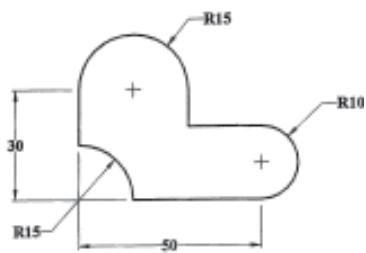

Fig: 1
1. a) Draw neat sketch and label it to show the basic terminology of press tool for the component shown in fig. 1. Also state the different types of die set and which one is shown in your sketch. **8**
- b) What is C.P. ? Find it for the blank shown in fig.1. **8**
2. Design a blanking die to produce a component as shown in fig.1.